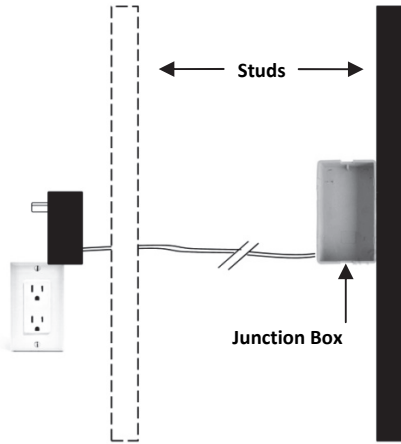

Figure 1. Locating the junction box and running low-voltage wires from the transformer (**front view**).
1. Run power supply wires from the provided low-voltage transformer to the junction box location. Power supply wires are run behind the wall (see Figure 1).
2. Install junction box according to the manufacturer's instructions (see Figure 1).